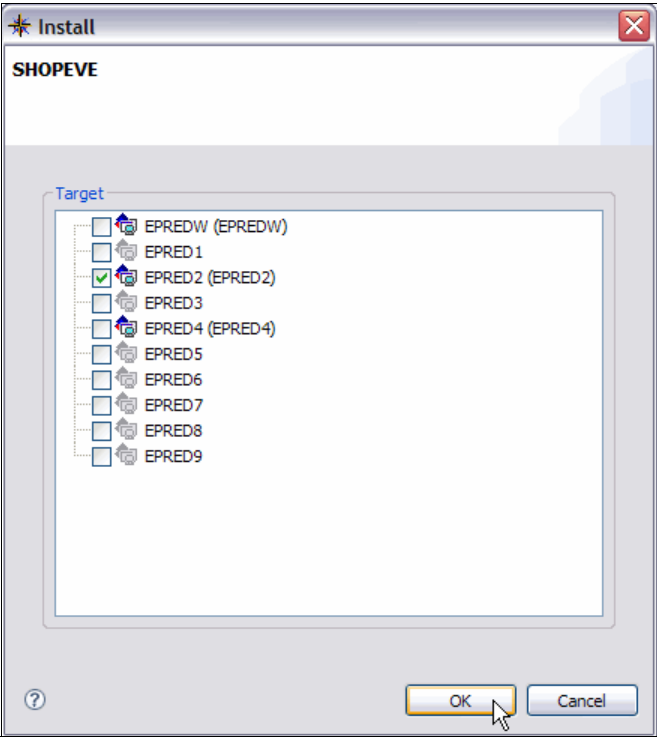

Figure 5-27 Select target region for install
3. In the window (Figure 5-27) check the target region for the install and click **OK**.